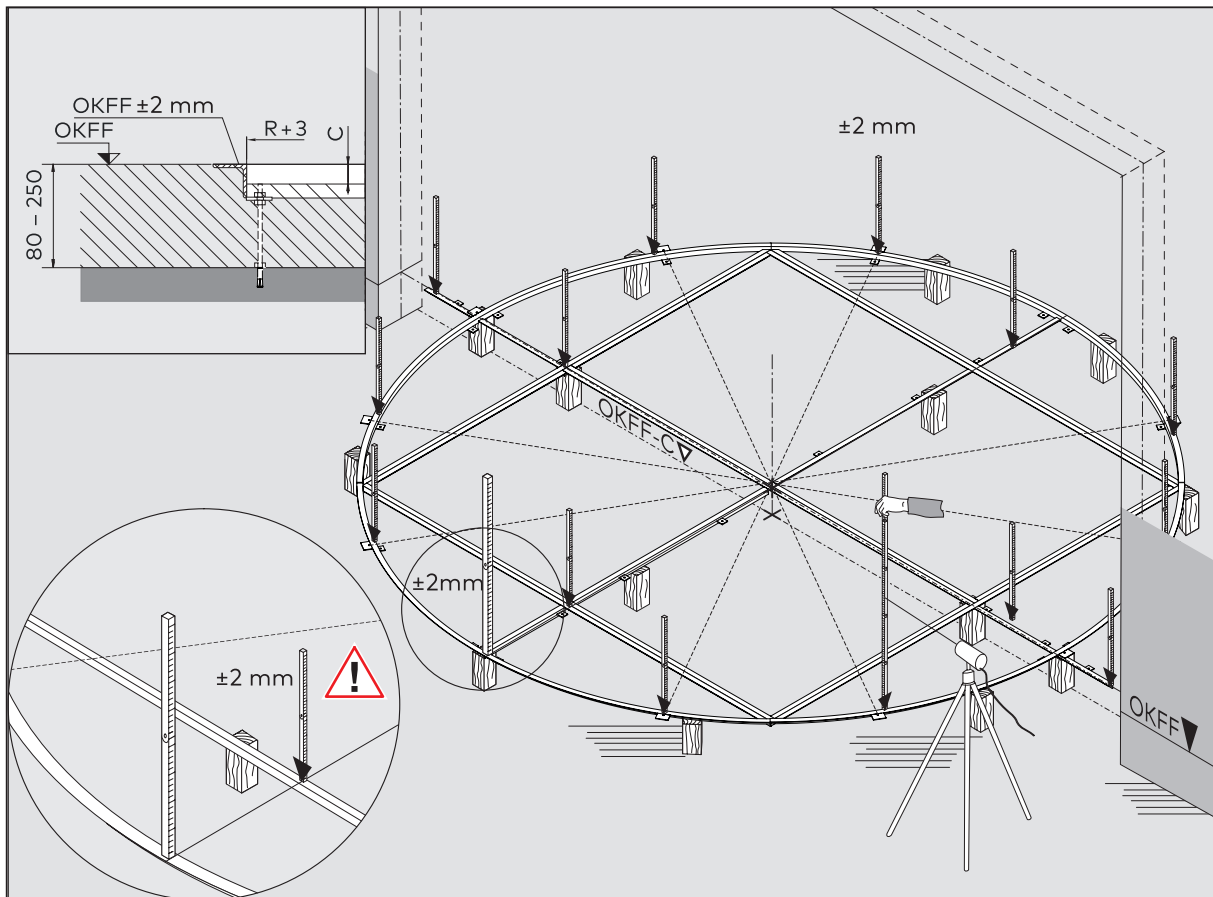

Fig. 9 Aligning the floor ring
3. Align the floor ring evenly with the upper edge of the finished floor with blocks, as shown in Fig. 9.